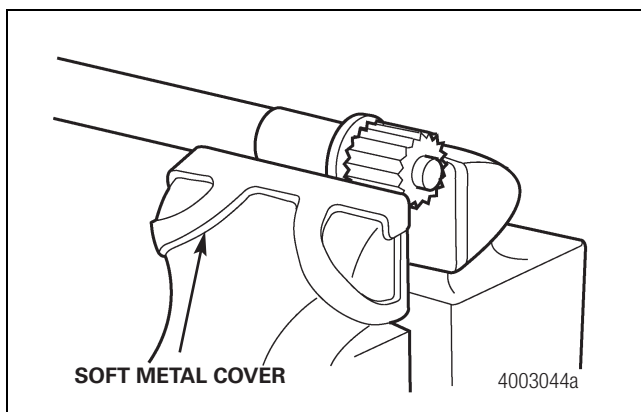
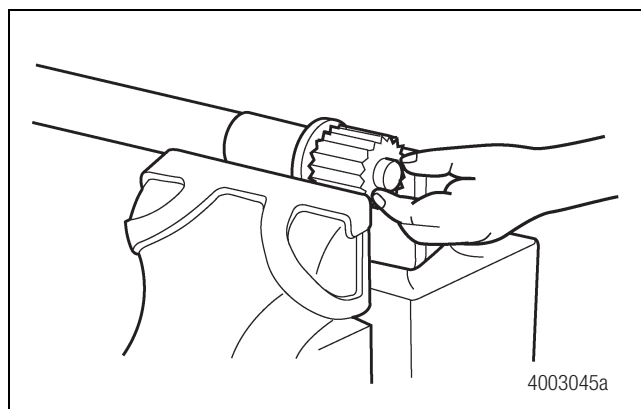

Figure 3.8
Figure 3.9
- A. Clamp the sun gear and shaft assembly in a vise. Remove the thrust button. Figure 3.8 and Figure 3.9.